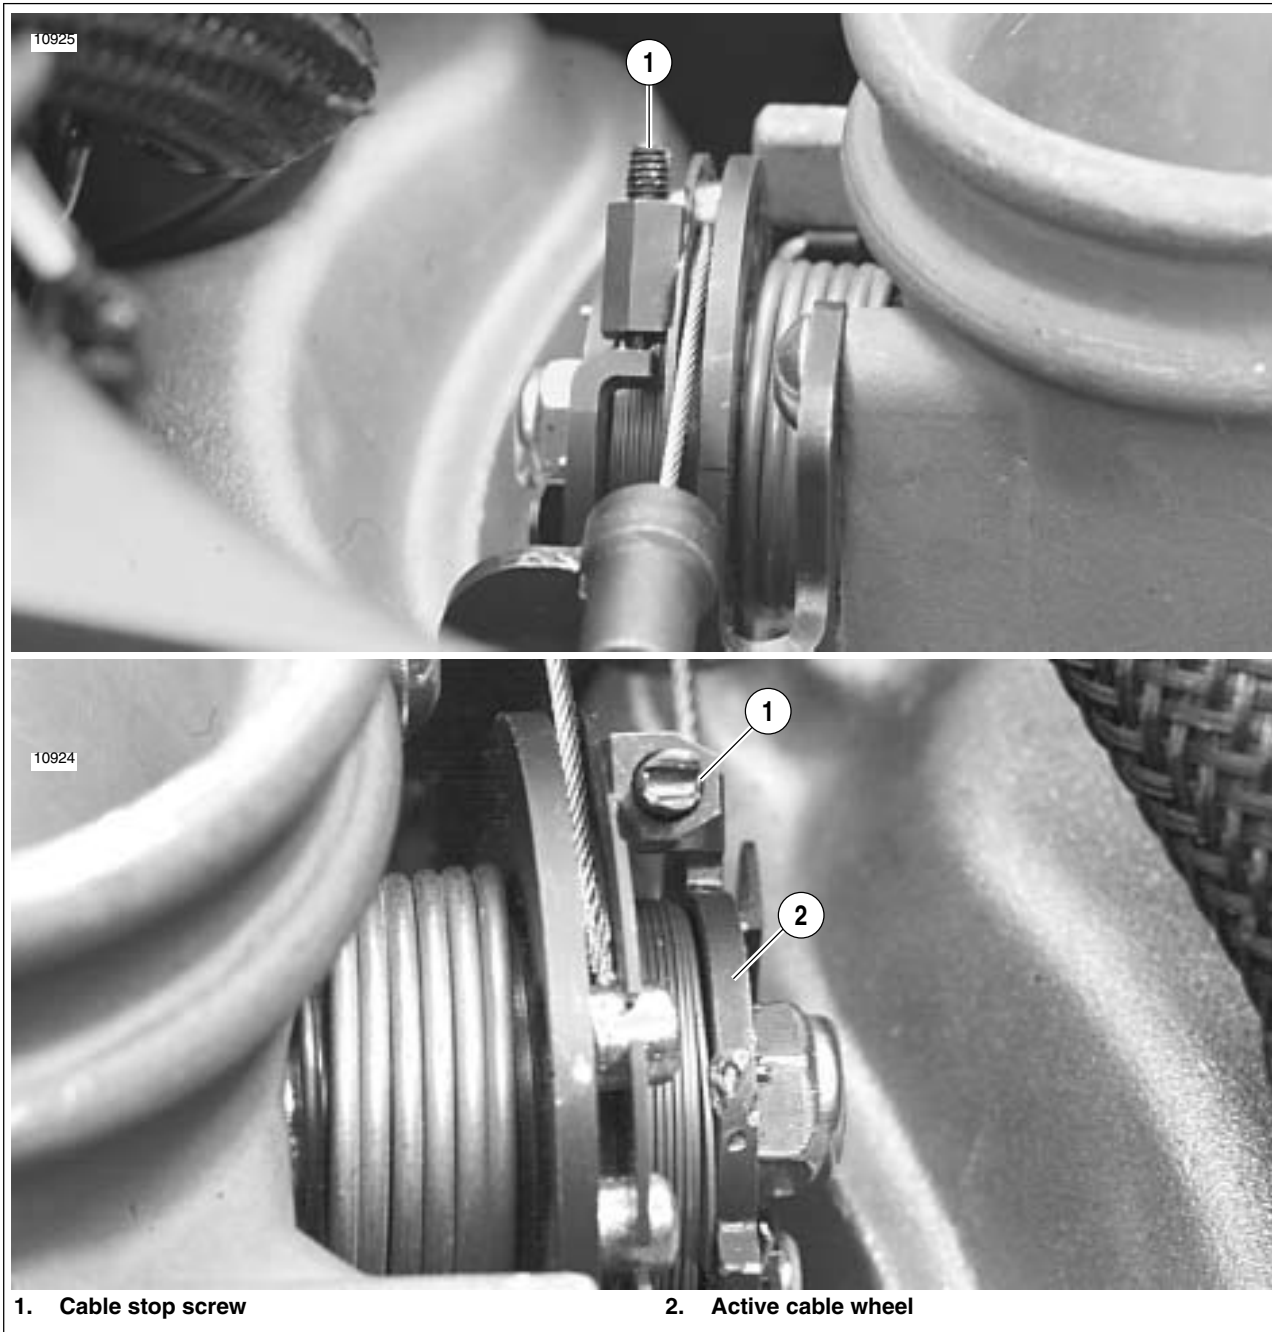

Figure E-3. Active Intake Cable Stop Screw
7. Remove baseplate (10). See 4.45 AIRBOX.
8. See Figure E-3. If the active cable needs to be replaced disconnect from cable wheel (2).